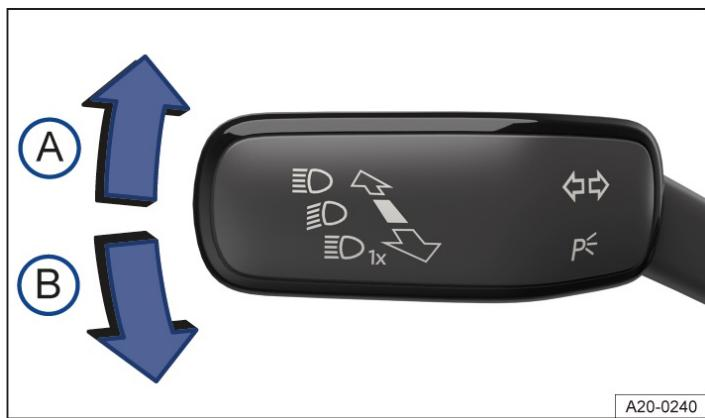

Fig. 1 On the left-hand side of the steering column: turn signal and main beam lever.
2. Move the turn signal and main beam lever from the centre position to the desired position → *Fig. 1*.